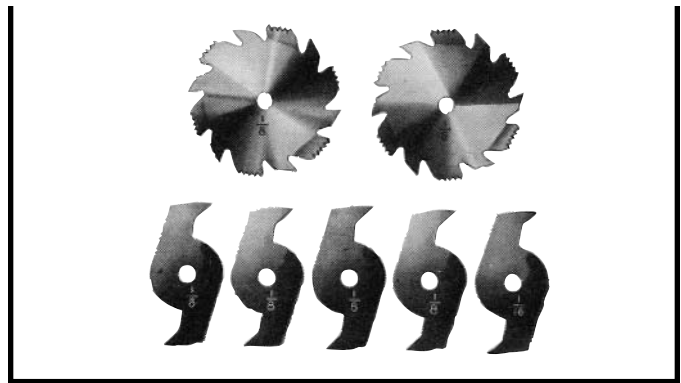
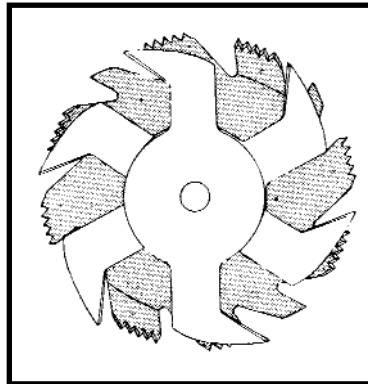
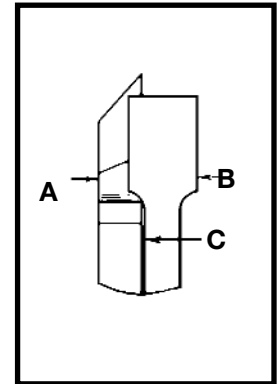

Fig. 48A
Fig. 49
Fig. 50
1. Dadoing is cutting a rabbet or wide groove into the work. Most dado head sets are made up of two outside saws and four or five inside cutters, (Fig. 48A). Various combinations of saws and cutters are used to cut grooves from 1/8 inch to 13/16 inch for use in shelving, making joints, tenoning, grooving, etc. The cutters are heavily swaged and must be arranged so that this heavy portion falls in the gullets of the outside saws, as shown in Fig. 49. The saw and cutter overlap is shown in Fig. 50, (A) being the outside saw, (B) an inside cutter, and (C) a paper washer or washers, used as needed to control the exact width of groove. A 1/4 inch groove is cut by using the two outside saws. The teeth of the saws should be positioned so that the raker on one saw is beside the cutting teeth on the other saw.